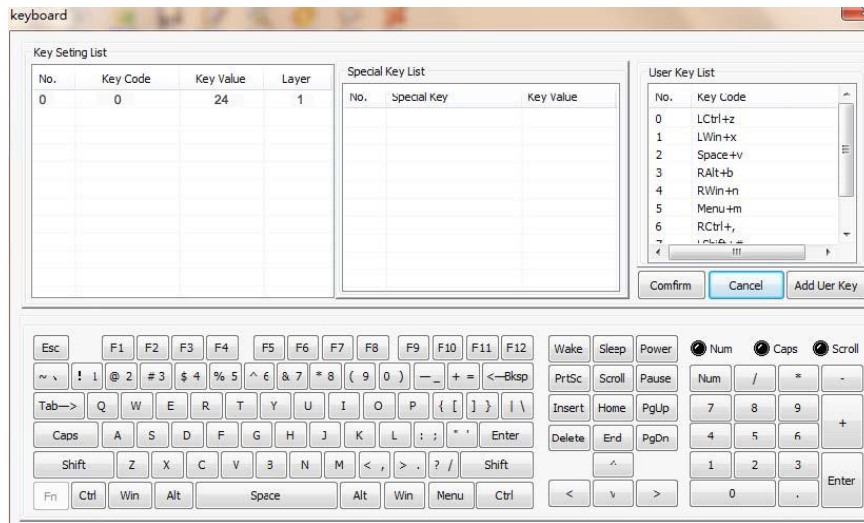

Figure 3.1.3
**Step 2.** Select layer you want to program, please select “Layer 1” for example and click “0” on blue key. It will pop up the virtual keyboard interface, *Figure 3.1.3*. In key Setting List, the Key Code still shows “0”.